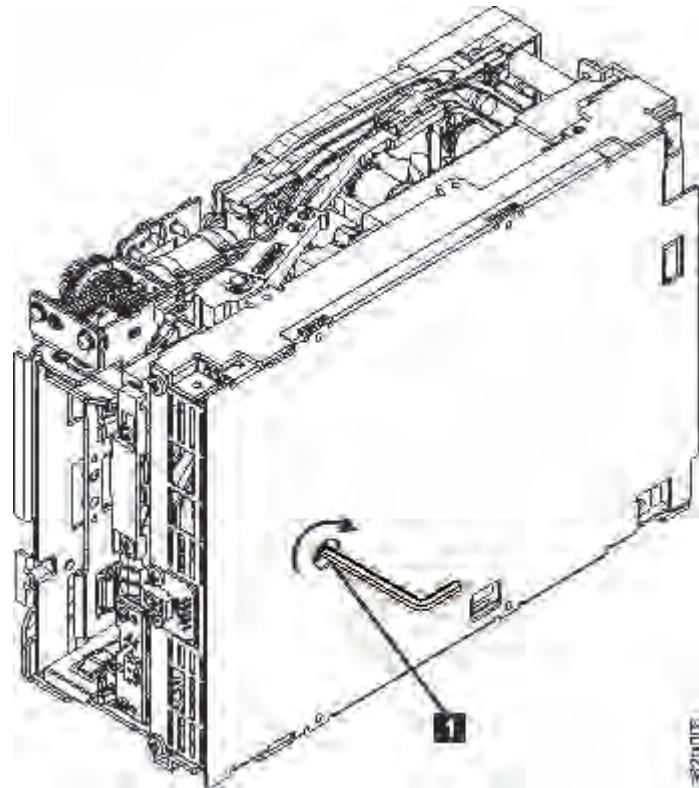

Figure 122. The hex wrench rewinds tape into cartridge
3. From the bottom of the drive, locate the access hole (**1** in Figure 122 on page 253).
Note: Be sure to keep tension on the tape as the LBA is drawn into the cartridge by using a hex wrench as shown in Figure 122 on page 253.